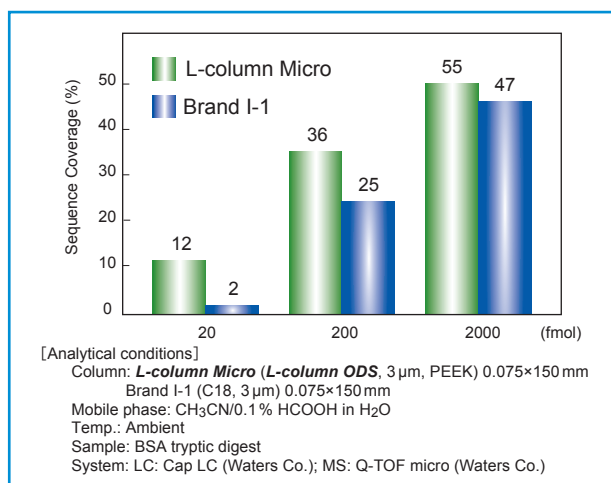
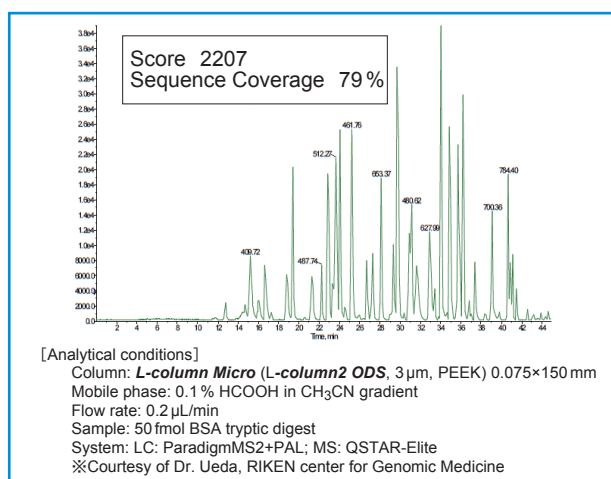

Fig. 22 Sequence coverage (BSA tryptic digest).
Fig. 23 Analysis of a small amount of BSA tryptic digest.
**L-column Micro** shows advantage at all concentration levels, but excels at the lower levels (Fig. 22). With superior end-capping and very high theoretical plate numbers per column, **L-column Micro** permits identification of many proteins and is the optimum choice for proteome analysis (Fig. 23).